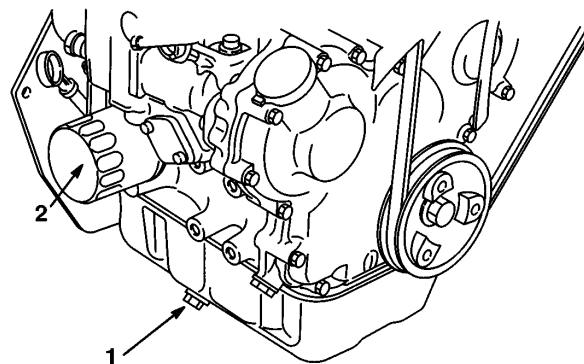

Figure 25
4. Place a pan below the oil drain. Remove the drain plug and let the oil drain completely (Fig. 25).